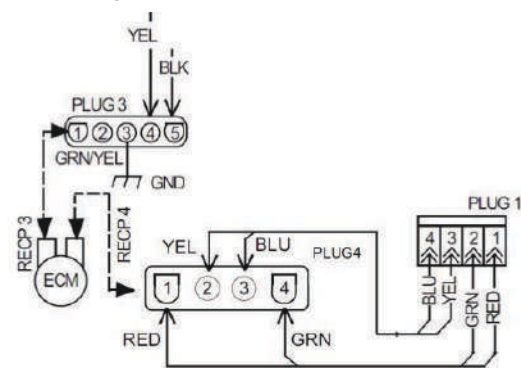

Fig. 13 – ECM / Plug Wiring Diagram
3. Disconnect Plug 1 from the board (Fig. 13).
1. If Fault Code 44 and the Motor LED are both flashing, place a DC voltmeter across terminals PL1-1 Red (+) to PL1-2 Green (-) (Fig. 13).